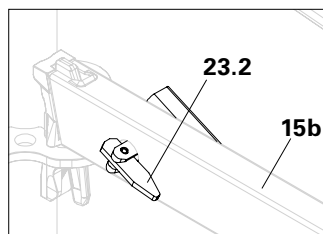

Fig. A4.07e
5. Set the tilt finger crosswise. → Ledger Brace UBL is installed. (Fig. A4.07e)
All tilt fingers (**23.2**) of the assembly must be transverse after installation of the Ledger Braces UBL and rest on both sides of the hole. (Fig. A4.07e)